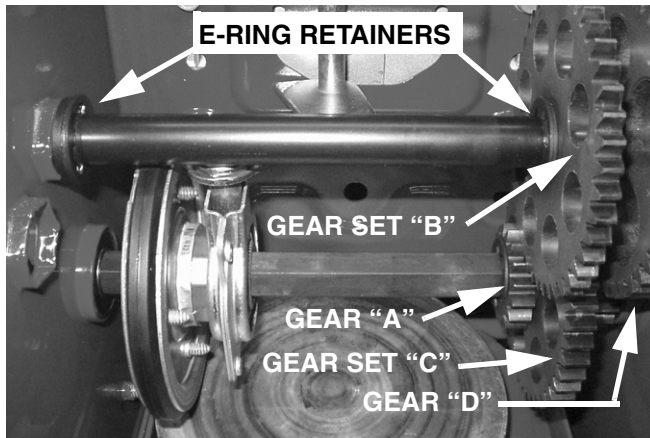

FIGURE 6
11. Remove and discard both E-ring retainers from the wheel axle. See Figure 6.
36. Install E-ring Retainer, Item 8, into the undercut slot next to Gear Assembly, Item 1. Ensure that the flat washer is between the Gear Assembly, Item 1, and the E-ring retainer. See Figure 6.
37. Install E-ring Retainer, Item 8, into the undercut slot next to the left side hex flanged bearing. Ensure the flat washer is between the hex flange bearing and the E-ring retainer. See Figure 6.